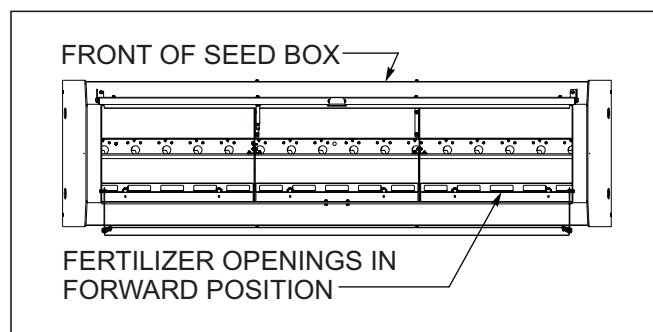

Figure 4-13: Fertilizer Box w/Cover Opening Forward
- b. For increased seed capacity and non fertilizer use, the covers should be reversed with the openings to the front of the seed box, and the solid portion covering the fertilizer meters *See Figure 4-13*.